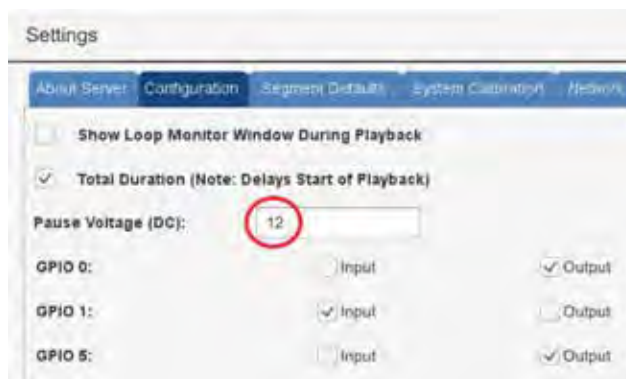

Figure 5.15 – Setting the Pause Voltage (DC)
6. Press the **Pause** button. The system will stop generating the signal described in the test sequences. By default, the controller will generate no signal while a test is paused. To generate a predetermined DC signal instead, change the Pause Voltage setting on the Configuration tab in the Settings window. See **Figure 5.15**.